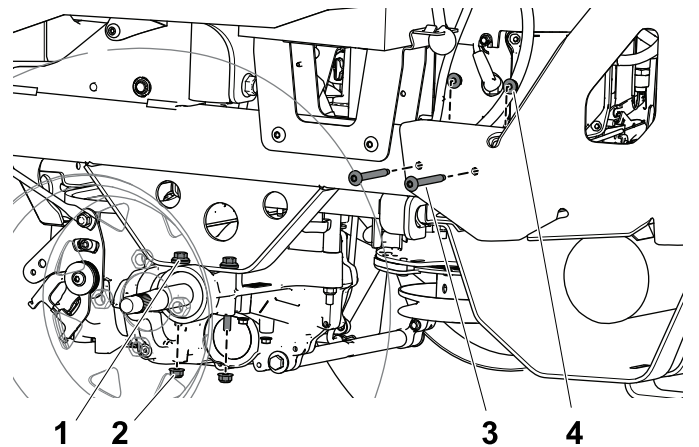

Figure 19
3. Remove and set aside the 2 flange nuts that secure the left drive assembly to the frame (Figure 19).